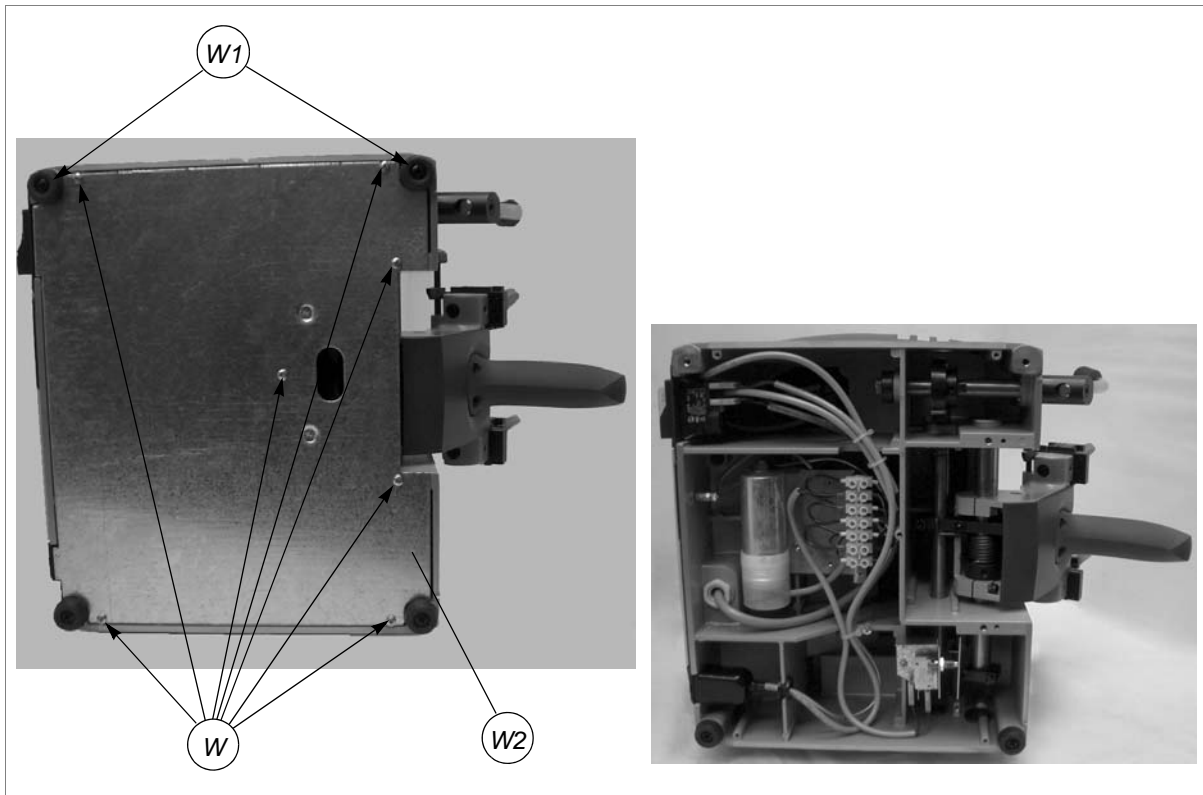
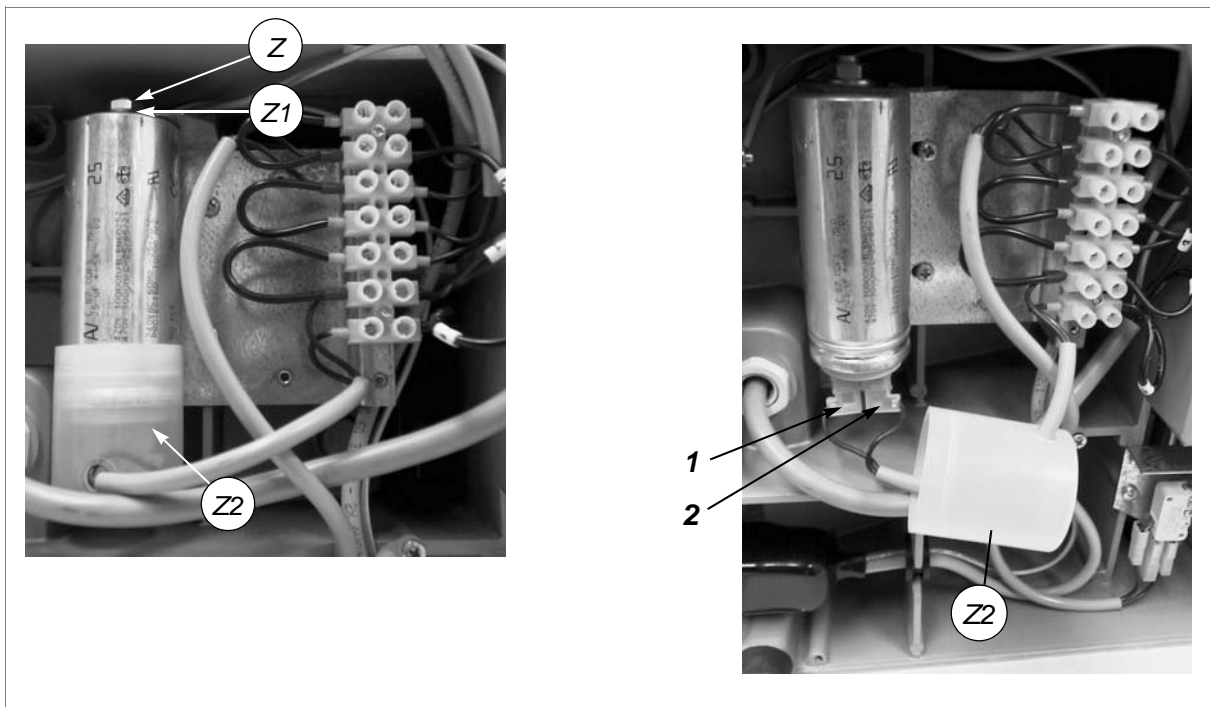

Fig. 26
Fig. 28
- 4) Loosen the 7 screws (W) and 2 feet (W1) and remove the bottom safety plate (W2) (fig.26).
- 3) Loosen the nut (Z) and remove the washer (Z1) and condenser (fig.28).
- 4) Fit the new condenser and fix with the washer (Z1) and nut (Z).
- 8) Replace the bottom safety plate, fix with the 7 screws (W) and 2 feet (fig. 26, page 21). Fit the swarf tray.
- 9) Replace the bottom safety plate and secure with the 7 screws (W) and 2 feet (W1) (fig. 26, page 21). Fit the swarf tray.